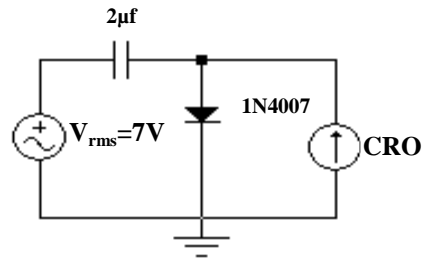
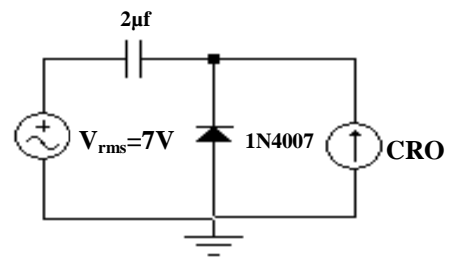
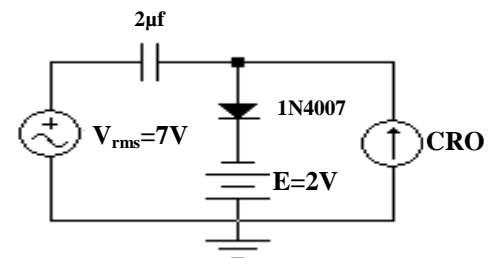

Fig. 1
Fig. 2
Fig. 3
1. Discuss the circuit operation in Fig. 1 and compare it with Fig. 2?
2. Compare the case in Fig. 1 with that of Fig. 3?